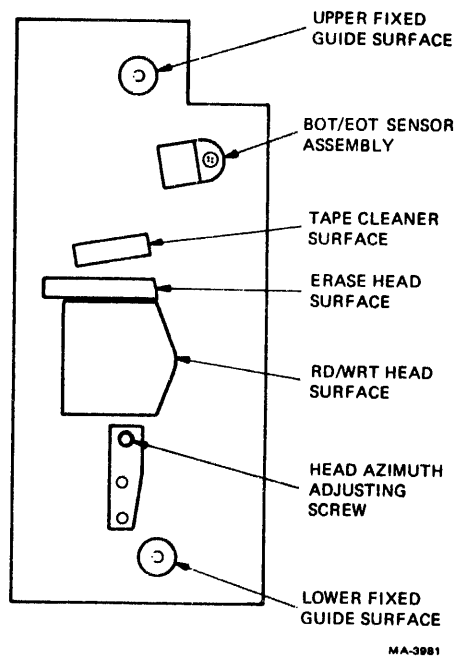

Figure 7-15 BOT/EOT Sensor and Head Skew Adjustment
7.6.2.9 BOT/EOT Adjustment – To adjust the BOT/EOT sensor (Figure 7-15), loosen the holding screw and position the sensor so the face of the sensor is parallel to a mounted tape.